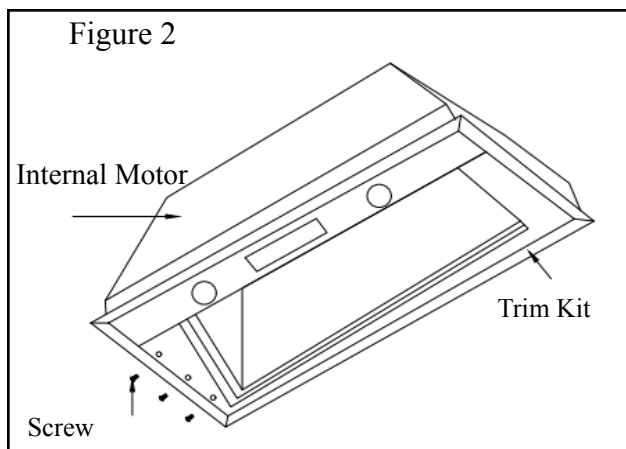

Figure 2
1. If the optional trim kit is used it must be installed prior to mounting the Metal Hood Liner into the wood decorative hood. Use the provided Phillips head screws. See Figure 2.